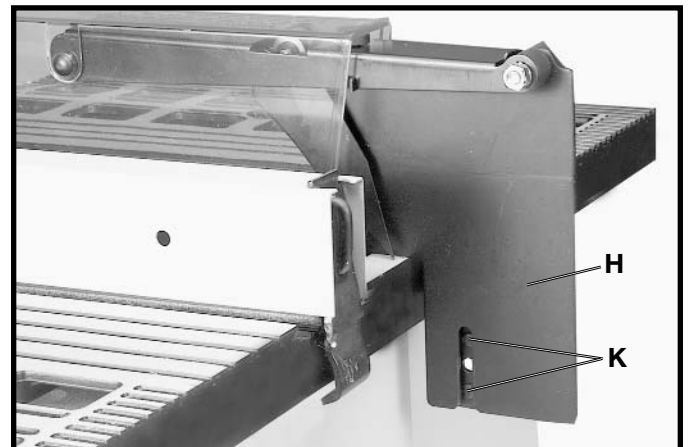

Fig. 13
7. Position the splitter (H) Fig. 13, against the splitter support bracket as shown, making certain the two protrusions (K) on the splitter support bracket are inside the slot of splitter (H).